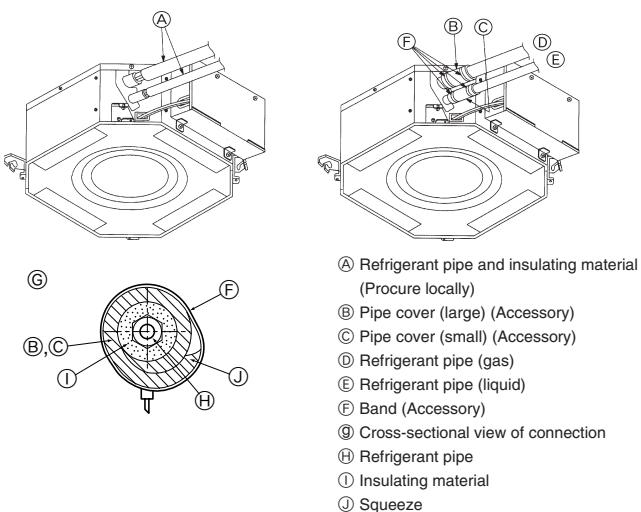

Fig. 3-3
④ Apply refrigerating machine oil over the entire flare seat surface.
3.3. Indoor unit (Fig. 3-3)